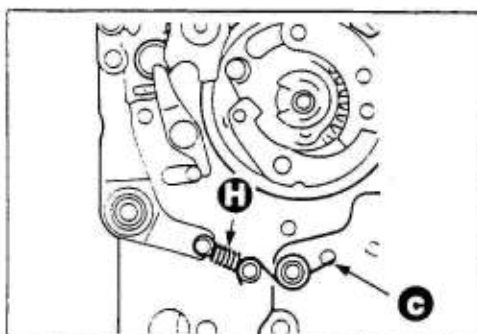

Fig.6
5. After hooking the spring ⑦, hook the spring ⑧ while pushing it down from above. (See Fig. 6.)